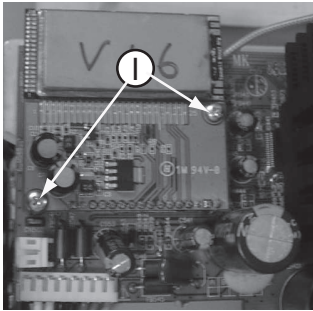

Figure 9
- 1) Loosen 2 screws "I" to move the Receiver module Board as shown in figure 9